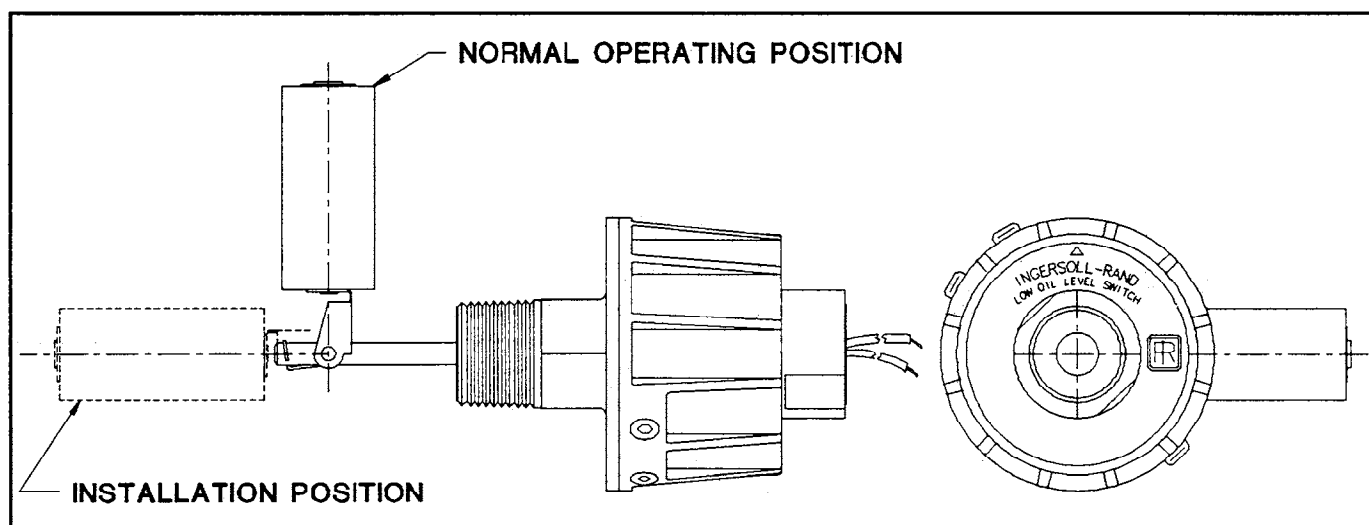

FIGURE 1. SWITCH ALIGNMENT.
- 1). Align the cover on the switch body as shown in Figure 1.
- 2). With the float extended straight out, insert the switch body into the frame and tighten. When properly installed, the switch should be aligned as illustrated in Figures 1 and 2.